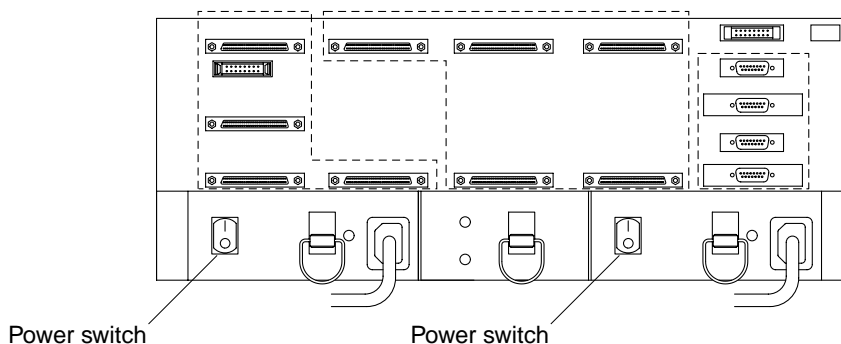

FIGURE 3-1 Controller Module Power Switches
3. Turn both power switches at the rear of the controller module to the On position (FIGURE 3-1).
- 3. To power off only the controller module, turn both power switches on the back of the controller module to the Off position (FIGURE 3-1).**